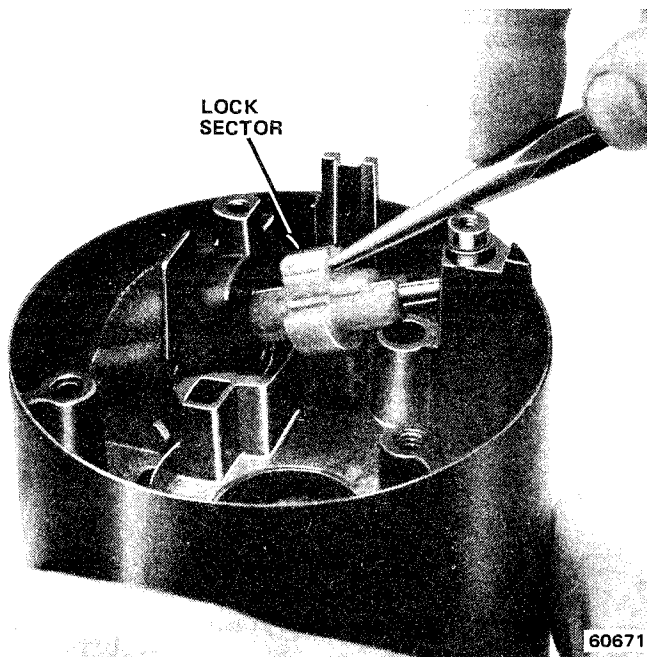

Fig. 2J-15 Lock Sector Removal
(27) Remove column from vehicle, if necessary, and mount column in vise using Support Fixture Tool J-23074 (fig. 2J-4).
(28) Remove steering shaft if not removed previously.
(29) Remove spring clip from lower bearing retainer and remove retainer, bearing, and adapter.